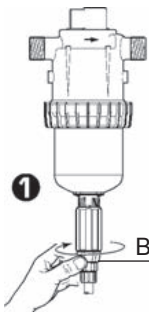

Fig. 12
- Unscrew the blocking ring (Fig. 12-B).
- Tighten the blocking ring (Fig. 12-B).